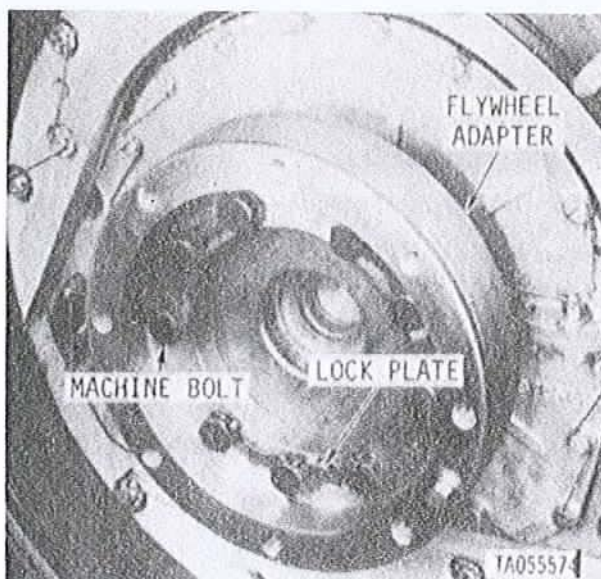

Figure 3-118.3. Removing flywheel adapter, model AVDS-1790-2DR engine.
c.3. Install three 9/16 x 1-3/4 in. bolts in puller screw holes (fig. 3-118.3). Alternately tighten bolts and pull flywheel adapter from crankshaft dowel pins. Remove bolts from adapter.